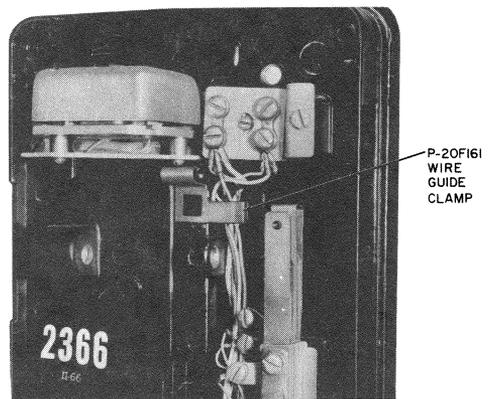

Fig. 25—Installation of Wire Guide Clamp
(1) Install P-20F161 wire guide clamp (Fig. 25) on backplate. Ensure that wiring is routed as shown.